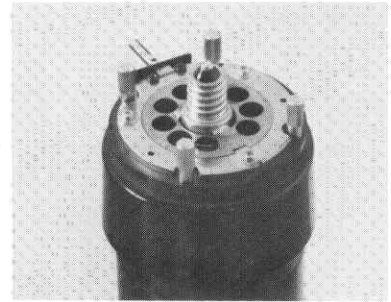

Fig. 48
- (3) When inserting the new bulb, check that the flange of the bulb is well-seated, or the notch on the flange agrees with the locating plate. Otherwise, slit image will not be uniformly projected. (See Fig. 48)
- (4) Carefully replace the lamphouse cover, press, and insert the plug by turning it clockwise.
- (5) Set the power switch to ON and check that the lamp lights.